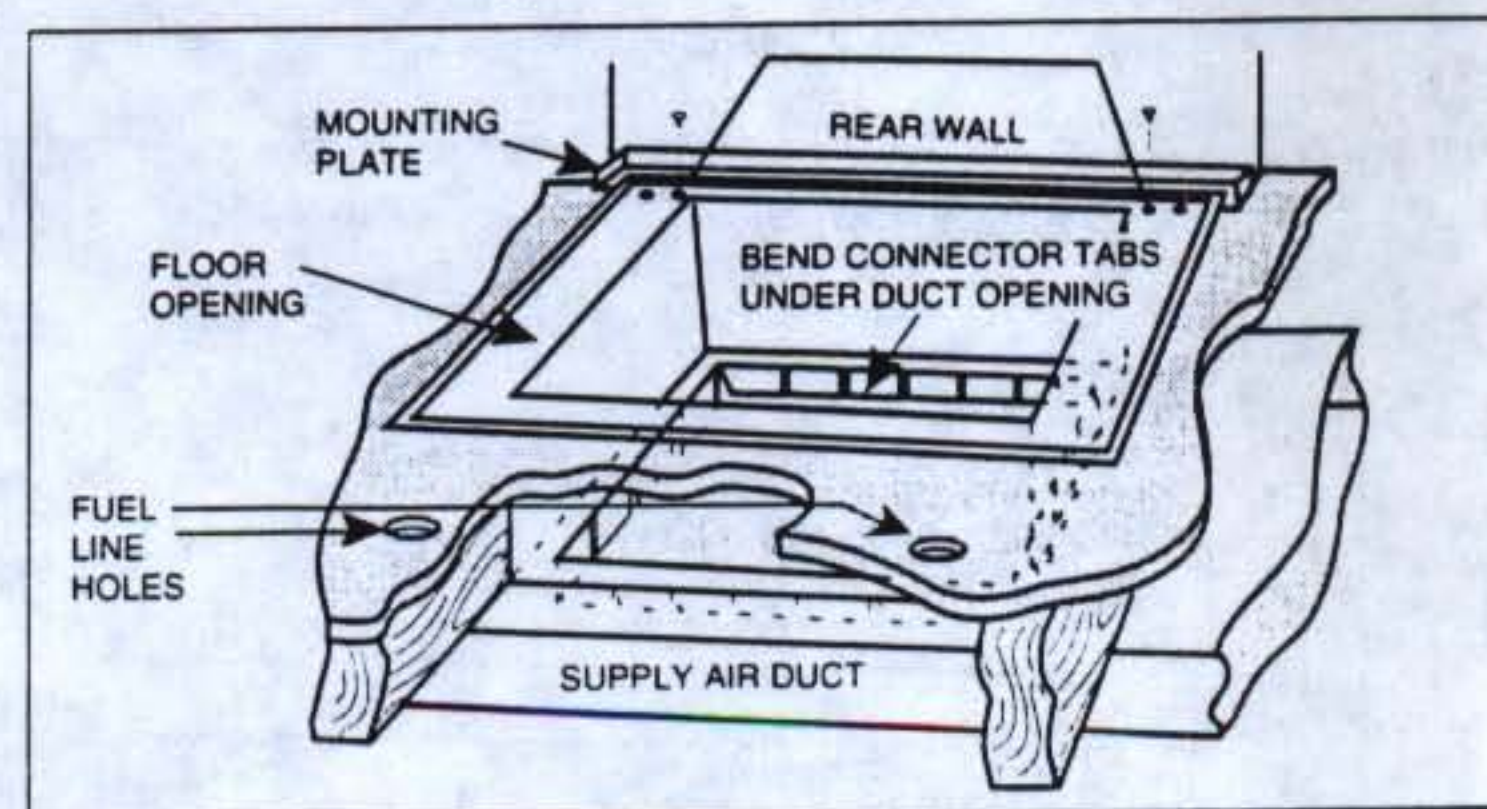
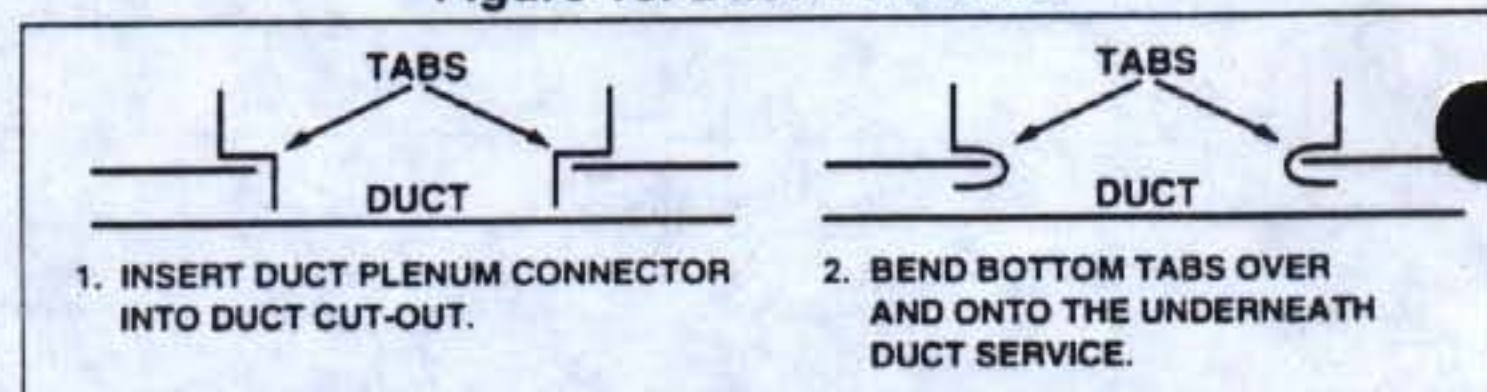

Figure 16. Duct Connector
Figure 17. Installation of Duct Connector
- Place mounting plate (supplied within duct connector) at rear of the floor opening (See Figure 16).
- Place duct connector through the floor opening with bottom tabs extending through the duct opening. (See Figure 16)
- Secure duct connector and mounting plate with two (2) flathead screws or nails at dimpled mounting locations.
- Bend bottom tabs under and up tightly against the supply air duct (See Figure 17).